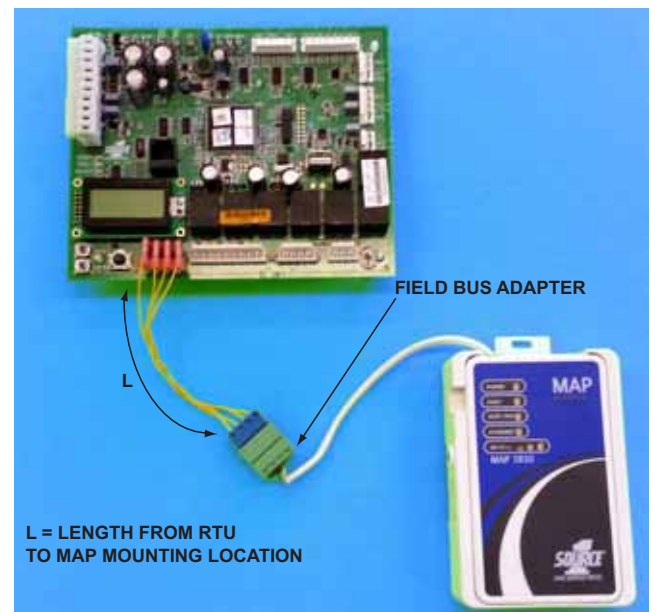

Figure 15: MAP Connected Using Field Bus Adapter
1. To physically connect the MAP Gateway to your equipment, plug one end of the supplied RJ-12 cable to the SA/FC bus port of your equipment, and plug the other end of the RJ-12 cable to the SA/FC port on the MAP Gateway (Figure 15).